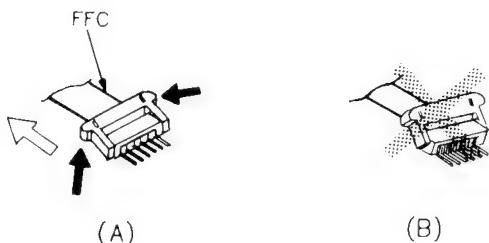

Fig. 4-15-2
- When disconnecting the FFC6P and the FFC10P, refer to the disconnecting method shown in Fig. 4-15-2.
Don't pull the connector as shown in Fig. 4-15-2 (B). If pulled strongly in the direction to be opened, the cable will be damaged.